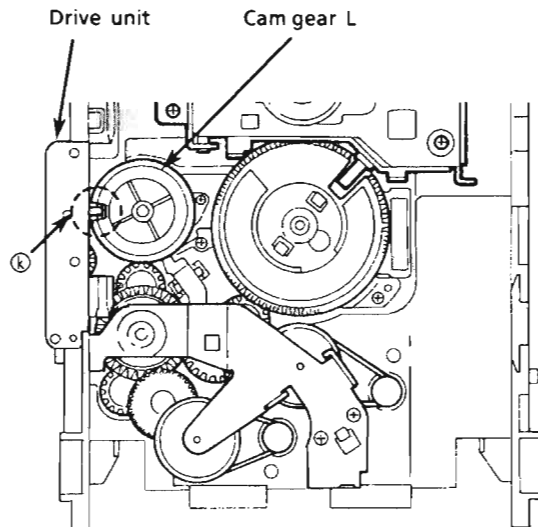

Fig. 41
2. Rotate the Cam gear L so that the drive unit's pole ⑫ is positioned as shown in Fig. 41.